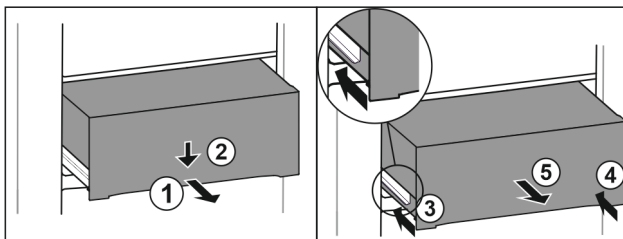

Fig. 105
- ▶ Pull out drawer half-way. Fig. 105 (1)
- ▶ Push the drawer down at the front. Fig. 105 (2)
- ▶ Push the left rail in by about 2 cm. Fig. 105 (3)
- ▶ Push the right rail in by about 2 cm. Fig. 105 (4)
- ▶ Remove drawer to the front. Fig. 105 (5)